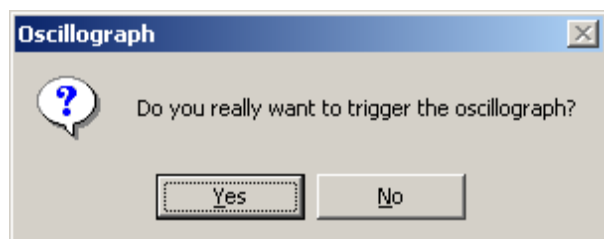

Figure 2-17 Trigger Oscillograph Confirmation Screen
1. Select **Relay/Oscillograph/Trigger**. IPScom® will display the Trigger Oscillograph confirmation screen (Figure 2-17).